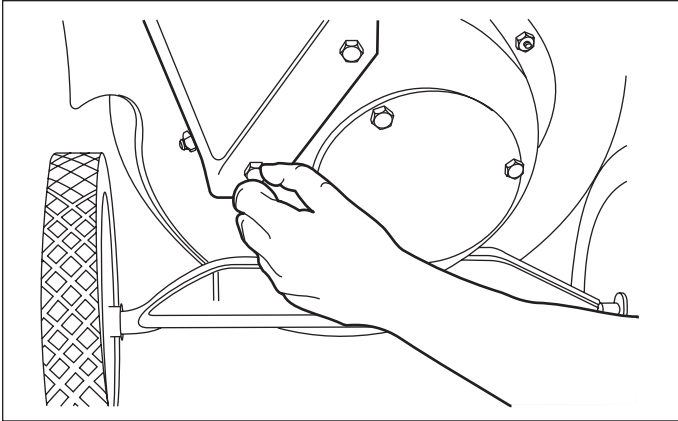

Figure 12. Removing the Shredder Hopper
3. Detach the shredder hopper from the rotator housing (Figure 12).
3. Detach the shredder hopper from the rotator housing (see Figure 12).